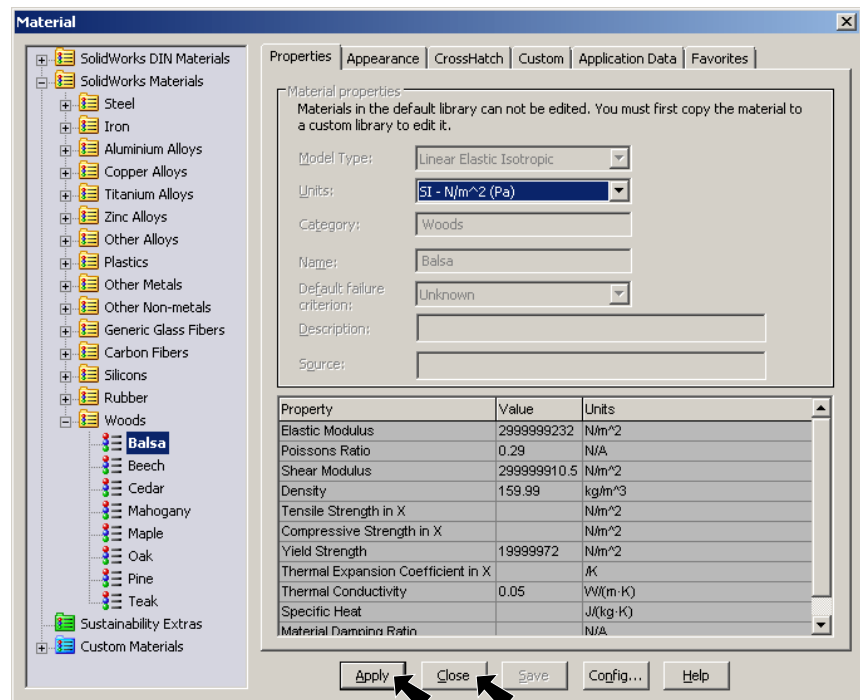

Fig. 34
Step 2. **Expand Woods** (click the +) in the material tree and select **Balsa**, **Fig. 34**. Click **Apply** and **Close**, **Fig. 35**.